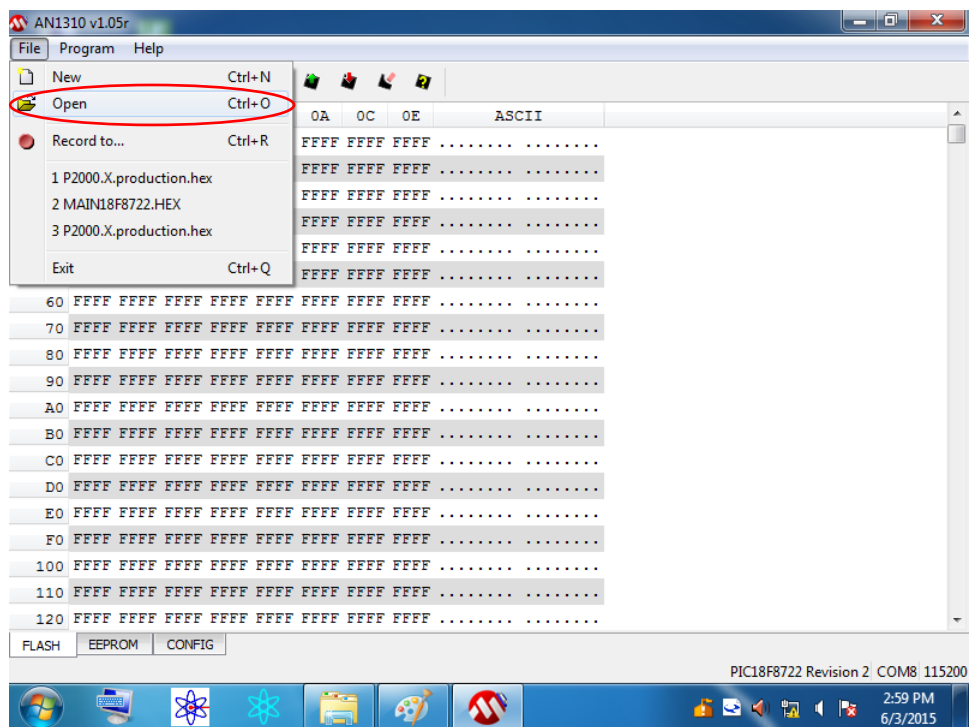

Figure 3.17
6. From the main menu select **File>Open** (Figure 3.17)